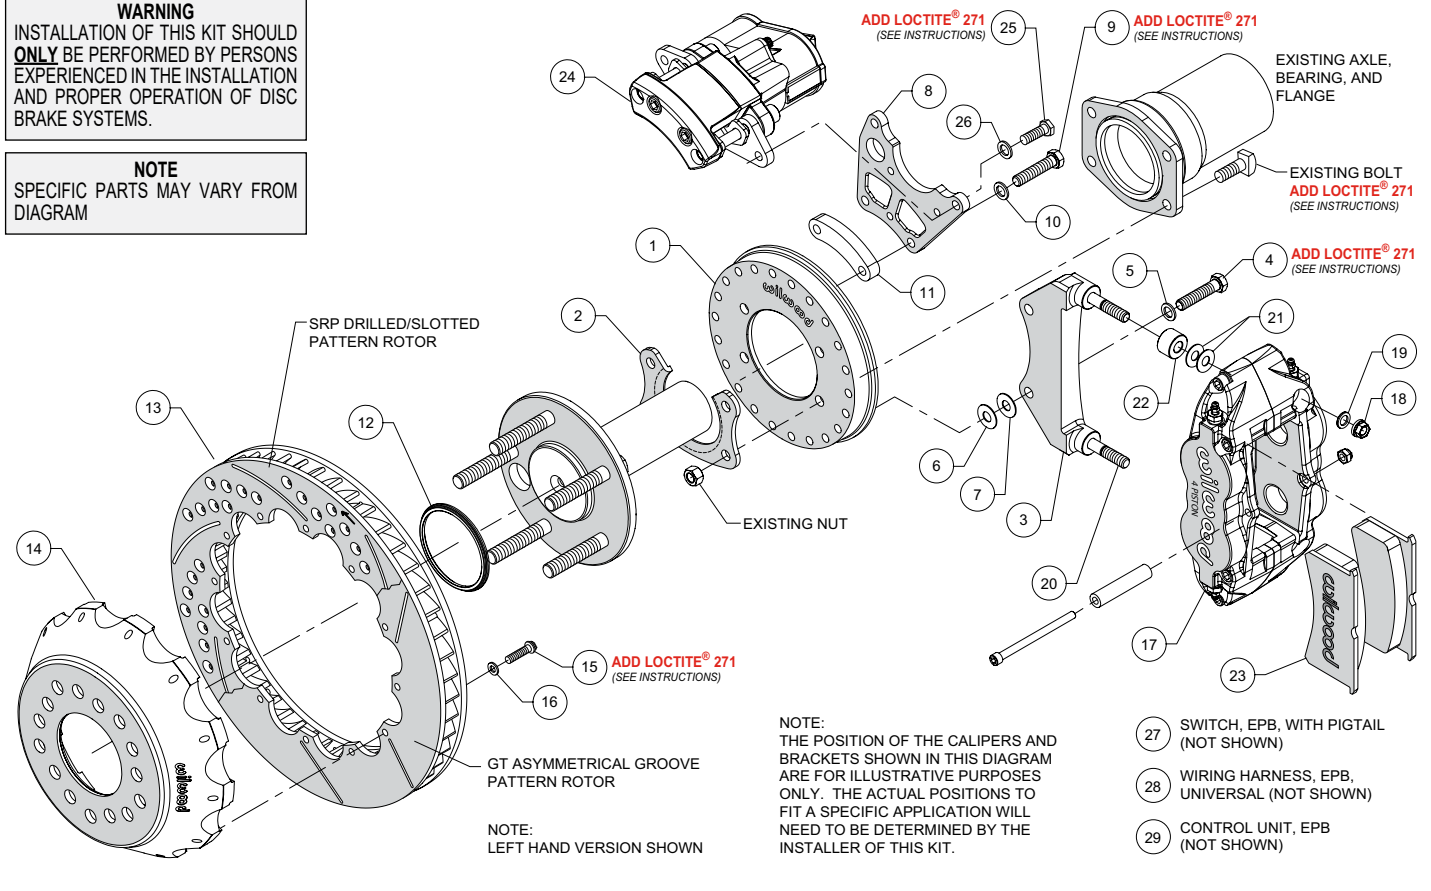
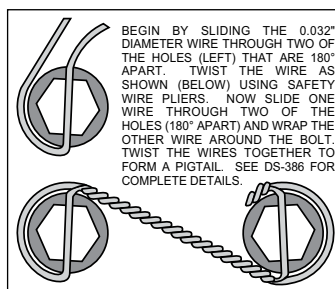

Figure 1. Typical Installation Configuration
Figure 5. Safety Wire Diagram
**NOTE:** Numbers in parenthesis refer to the parts list and Figure 1 on the preceding pages.
- Orient the backing plate (1) as shown in Figure 1 and Photo 1, and slide it onto the axle housing flange. Ensure the backing plate fits flush against the axle housing flange. Reinstall the axle into the axle housing.
- Install the bearing retainer (2) with the opening pointing upward and the lip facing inward (toward the bearing), as shown in Figures 1 and 4, and Photo 2. Secure retainer and backing plate to the axle housing flange using the Original Equipment Manufacturer (OEM) bolts and nuts, Figure 1 and Photo 3. Apply red *Loctite*® 271 to the OEM bolt threads and torque to OEM specifications.
- Start by determining the best location for the service caliper (17). This caliper is usually mounted in the 3:00 or 9:00 o'clock position, but may be rotated up or down approximately 45 degrees and still allow for proper bleeding, Photo 4. Orient the service caliper bracket (3) as shown in Figure 1 and Photo 5, and install to the backing plate (1) in the desired location using bolts (4) and washers (5). Temporarily tighten bolts. Next, mount the service caliper onto the bracket. Mount the service caliper using lock nuts (18) and washers (19), Figure 1. Temporarily tighten the lock nuts. Check that the caliper (including inlet fitting and hose) has sufficient clearance to all surrounding components through the full suspension travel. Relocate the caliper/bracket on the backing plate as needed to ensure proper clearance is achieved.
- Determine the best location for the EPB caliper (24). **NOTE:** *The EPB caliper motor extends farther inboard than the service caliper and therefore needs additional consideration when determining a mounting location with sufficient clearance.* In the example application shown in Photo 6, the EPB caliper has sufficient inboard clearance to the leaf spring. However, if the EPB caliper were mounted closer to the 12:00 o'clock position, the inner body of the vehicle would hit the caliper during full compression of the suspension.
•Orient the EPB caliper bracket (8) as shown in Figure 1 and Photo 7, and install to the backing plate (1) in the desired location using bolts (9), washers (10), and spacer (11). Temporarily tighten bolts. **NOTE:** The EPB bracket is reversible. In one direction the bracket will position the EPB caliper closer to the service caliper, and vice versa if reversing the bracket. Next, mount the EPB caliper (24) to the bracket using bolts (25) and washers (26). Temporarily tighten bolts. **NOTE:** EPB calipers are Left and Right handed, however they can be used on either side of the vehicle to best suit your specific application. Check that the EPB caliper (including wiring harness connector) has sufficient clearance to all surrounding components through the full suspension travel. Relocate the EPB caliper/bracket on the backing plate as needed to ensure proper clearance is achieved.
•Once the caliper positions have been determined, remove both the service (17) and EPB (24) calipers, leaving both brackets in place on the backing plate. For the EPB bracket, remove the bolts one at a time, apply red Loctite® 271 to the threads, and torque to 35 ft-lb. The service caliper bracket will be final installed after shimming is determined.
•Orient the rotor (13) and the hat (14) as shown in Figure 1 and Photo 8. Attach rotor to hat using bolts (15) and washers (16). Apply red Loctite® 271 to the bolt threads and torque to 155 in-lb using a criss-cross pattern. For an added measure of security, the bolts may be safety wired using standard 0.032 inch diameter stainless steel safety wire as shown in Figure 5. Please refer to Wilwood's data sheet DS-386 (available at [www.wilwood.com/Pdf/DataSheets/ds386.pdf](http://www.wilwood.com/Pdf/DataSheets/ds386.pdf)) for complete safety wire installation instructions.
•Initially place two .035" thick shims (21) and one spacer (22) on each stud of the service caliper bracket (3) as shown in Figure 1 and Photo 10. Mount the caliper onto the bracket using lock nuts (18) and washers (19), Figure 1. Temporarily tighten the lock nuts and view the rotor through the top opening of the caliper. The rotor should be centered in the caliper, Photo 11. If not, adjust by adding or subtracting shims (6 and/or 7) between the service caliper bracket (3) and the backing plate (1). Always use the same amount of shims on each of the two mounting bolts. Once the caliper alignment is correct, remove the bracket mounting bolts (4) one at a time, apply red Loctite® 271 to the threads, and torque bolts to 35 ft-lb.
- Mount the EPB caliper (24) onto the caliper mounting bracket (8) using bolts (25) and washers (26), Figure 1. Apply red *Loctite*® 271 to bolt threads, and torque to 30 ft-lb.
• **NOTE:** The service caliper (17) in this brake kit utilizes a 1/8-27 NPT pipe thread inlet. OEM rubber brake hoses generally cannot be adapted to Wilwood calipers. The preferred method is to use steel adapter fittings at the caliper, either straight, 45 or 90 degree (use PTFE tape on pipe threads of adapter fitting for proper sealing to caliper) and enough steel braided line to allow for full suspension travel. **Carefully route hoses to prevent contact with moving suspension, brake or wheel components.** **NOTE:** Wilwood hose kits are designed for use in many different vehicle applications and it is the installer's responsibility to properly route and ensure adequate clearance and retention for brake hose components. Wilwood offers universal brake flex line hose kits, domestic (3/8-24 IF) chassis fittings, order: